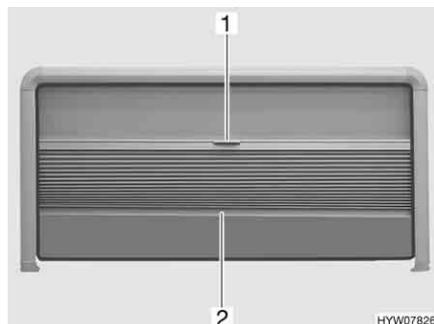

Fig. 64 Hinged window
- Hold the Roman shade in the centre of the bottom rod (Fig. 64,2) and carefully draw it downwards.
- Hold the bottom rod (Fig. 64,2) of the Roman shade in the centre and carefully slide the Roman shade upwards.
- Carefully pull down the insect screen by the handle (Fig. 64,1).
- Slowly push the insect screen on the bottom rod of the Roman shade (Fig. 64,2) all the way up.